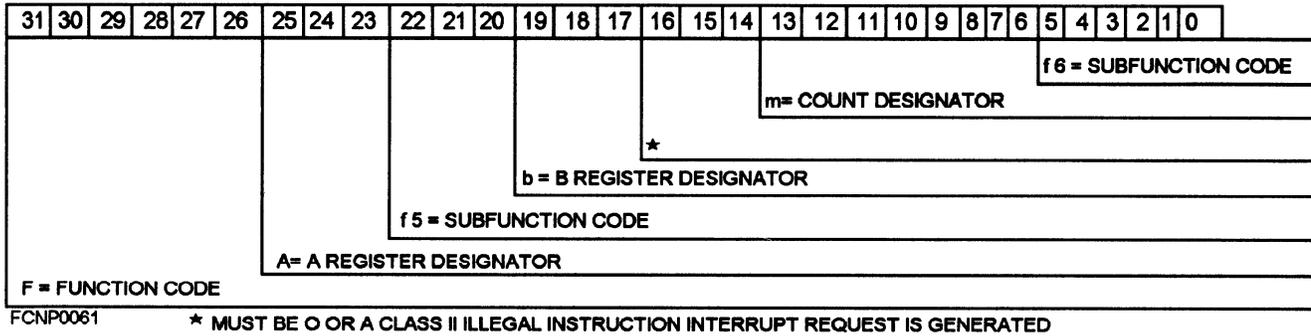

Figure 8-9.—Illustration of instruction word format V.
- **Format V** —Format V instructions are full-word format instructions (fig. 8-9) used for single and double-precision floating-point math operations and other large magnitude number functions. In this format the **f**, **f₅**, and **f₆** fields are used to define the specific operation to take place. The **a** and **b** fields are used for accumulator and index register definition. The **m** field provides decimal point positioning values for floating point operations.